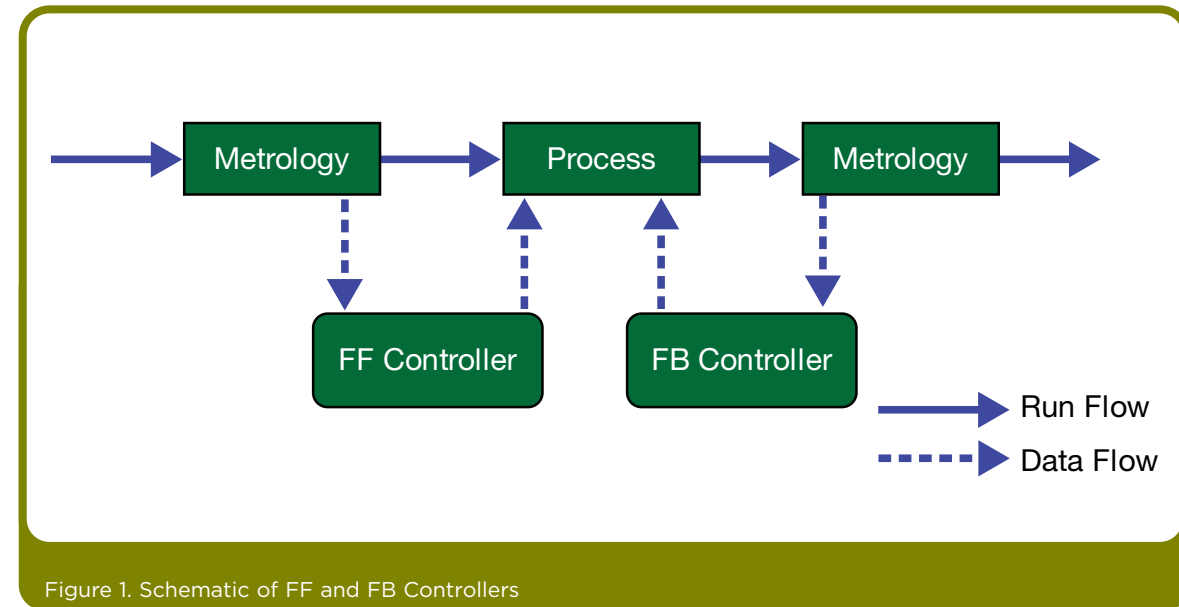

Figure 1. Schematic of FF and FB Controllers
controller is a feed-forward (FF) controller. An FF controller is proactive because it makes adjustments before the system is affected by a known disturbance. These controllers are not mutually exclusive and can be used simultaneously on the same process. If FF & FB are used simultaneously, the FF portion of the controller will adjust for known disturbances to the system and the FB portion will adjust for unknown disturbances. See Table 1 for the pros and cons of each of the three controller types and Figure 1 for a graphic depicting these controller types.